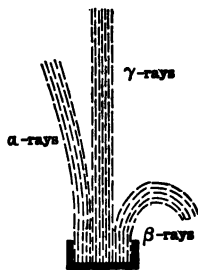

FIG. 526. — Effect of magnet on rays.
(2) The β -rays, or *beta rays*, are identical with the cathode rays. They consist of negatively charged particles of matter, or electrons. They are only about $\frac{1}{1836}$ as heavy as the hydrogen atom. Since they travel at a velocity of from 60,000 miles per second to 160,000 miles per second, they have much greater penetrating power than the alpha particles. The β -ray seems to be identical with the charge carried by the negative ion in solution or during electrolysis.
(3) The γ -rays, or *gamma rays*, appear to be of the same nature as the X-rays. They are more penetrating than either the alpha or the beta rays. The gamma rays are believed to be caused by the impact of beta particles upon surrounding matter. Fig. 526 shows the effect of a powerful magnetic field on the complex Becquerel rays emitted from a small amount of radium. The heavy alpha particles are deflected slightly in one direction; the lighter beta particles are deflected more markedly in the other direction; the gamma rays are not deflected at all. By the use of such a magnetic field Rutherford learned the nature of the Becquerel rays.